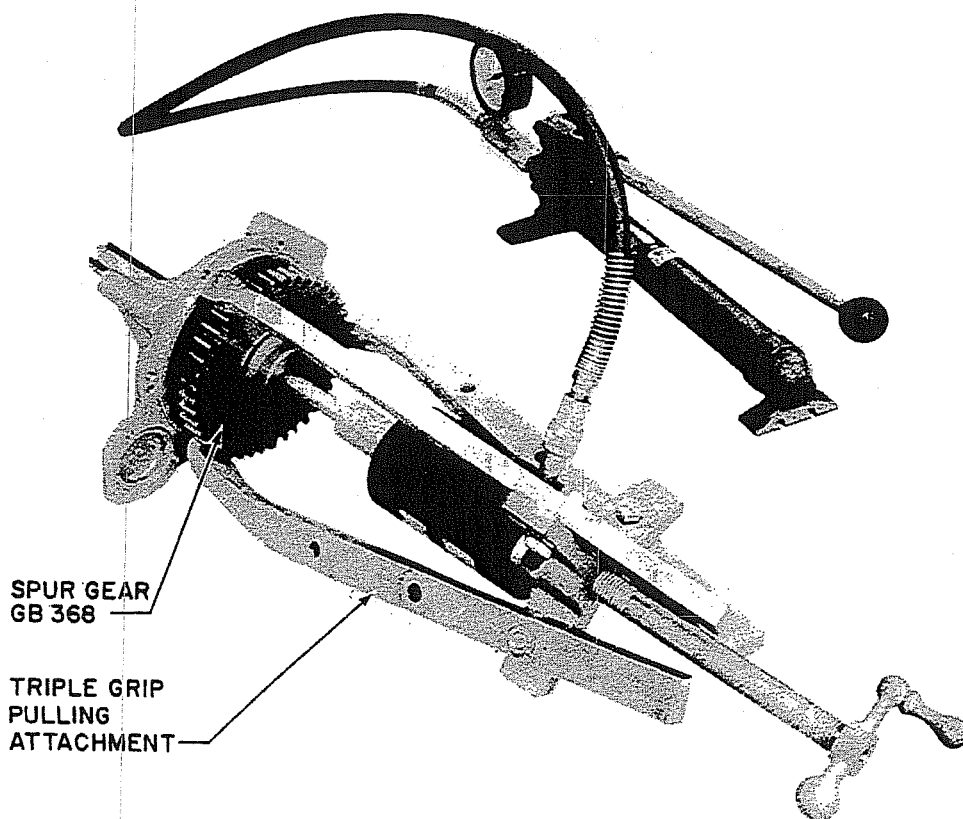

Figure 27. 1 to 1 Shaft, Removal of Spur Gear GB368
- F. Secure the bearing pulling attachment or triple grip puller behind Spur Gear GB368 and remove with approximately 7 tons of pressure applied to the 1 to 1 Shaft (figure 27).